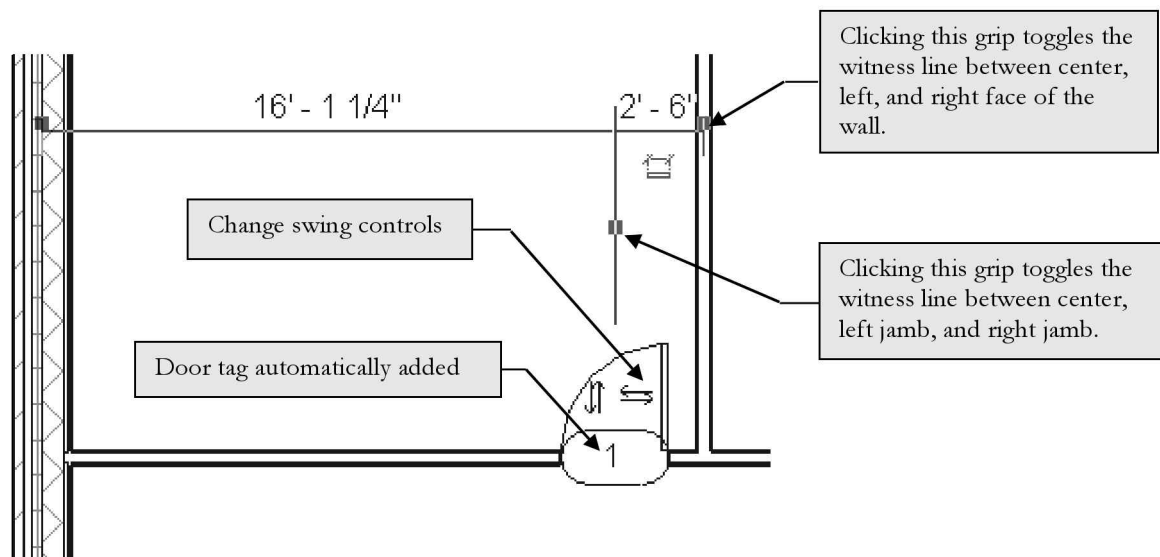

FIGURE 2-2.4 Door just placed
- While the door is still selected, click on the *change swing* (control arrows) symbol to make the door swing against the wall if it is not already (Figure 2-2.4).